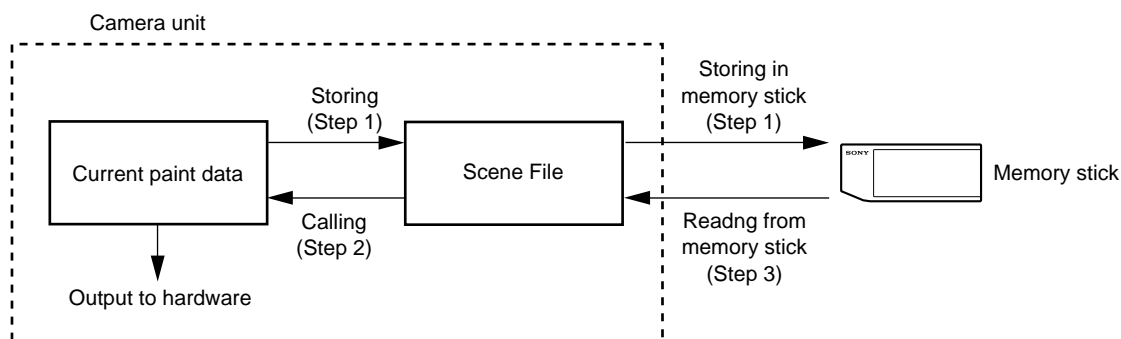

Fig. 5-3. Operating Procedure for Scene Files
### Storing Using Setup Menu (Refer to step 1 of Fig. 5-3.)
### Calling Using Setup Menu and Clearing the Call (Refer to step 2 of Fig. 5-3.)
### Storing with MSU (Refer to step 1 of Fig. 5-3.)
### Calling with MSU and Clearing the Call (Refer to step 2 of Fig. 5-3.)
**Storing the Scene File to the Memory Stick (Refer to step 1 of Fig. 5-3.)**
**Reading the Scene File from the Memory Stick (Refer to step 3 of Fig. 5-3.)**